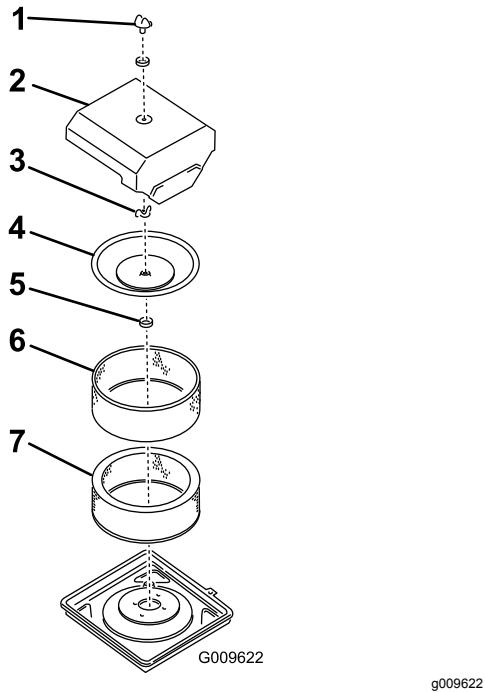

Figure 30
1. Remove the knob, O-ring, and air-cleaner cover (Figure 30).
4. Install the element with the pre-cleaner, breather seal, inner cover, wing nut, air cleaner cover, O-ring, and knob (Figure 30).